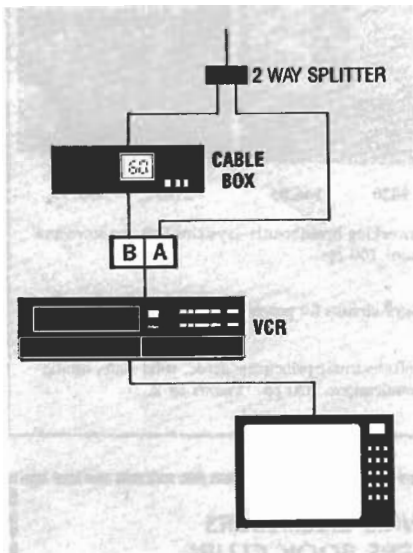

FIG. 2—THOSE WITH OLDER TV SETS and a cable-ready VCR prefer this setup.
Selecting the B position allows you to watch cable on channel 3. To record a cable program while watching another channel is no problem if your TV is cable-ready. Begin recording your program, then flip the A/B switch to position A. Use your TV remote control to select the desired channels on your TV tuner. If your TV set is not cable-ready, then that setup won't work; but don't despair, maybe the setup in Fig. 2 can help you.
- Figure 2 shows the A/B switch